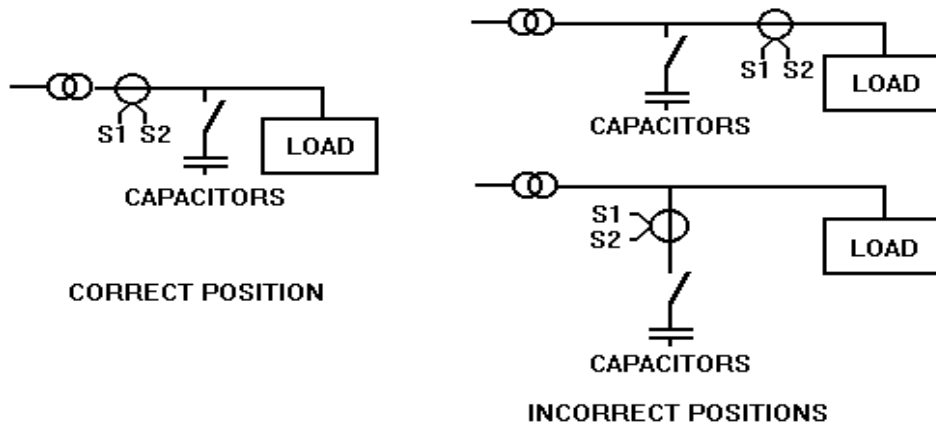

Figure 2.- Position of the current transformer
- The PF regulator must read the current of the installation through a current transformer (CT). The capacity of such CT must be above the maximum expected current in the installation, and the rated secondary signal must be 5A.
- According to previous paragraph, the CT must be placed in the phase distinct of those where the supply voltage is taken and measuring the total current of load+capacitor bank. (See the correct position of CT in figure 2)